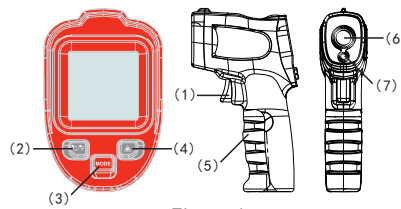

Figure 4
2. Names and functions of parts: as shown in Figure 4